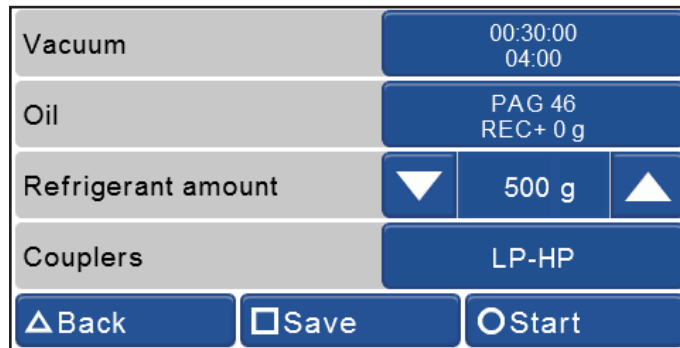
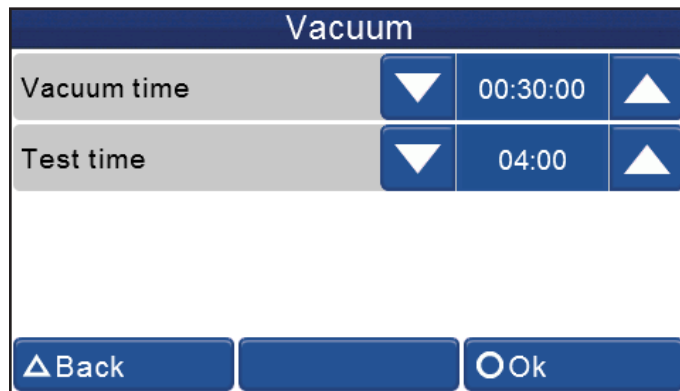

Fig. 21: Parameter adjustment
Fig. 22: Vacuum setup screen
After the selection is made, a screen will appear showing the data for the process (Fig. 21).
After selecting how the technician would like to load the A/C service data, the screen in Fig. 21 will appear.
- The top row displays the vacuum time. To adjust the vacuum time, touch the blue box at the right hand side of the screen. Adjust vacuum time by using the ▼▲ on the next screen (Fig. 22). Adjust vacuum test time using the same method. Press the **OK** button at the bottom right of the screen to save selection or press the **BACK** button to discard changes and go back to the screen in Fig. 21. Adjusted vacuum time should appear in the top row.